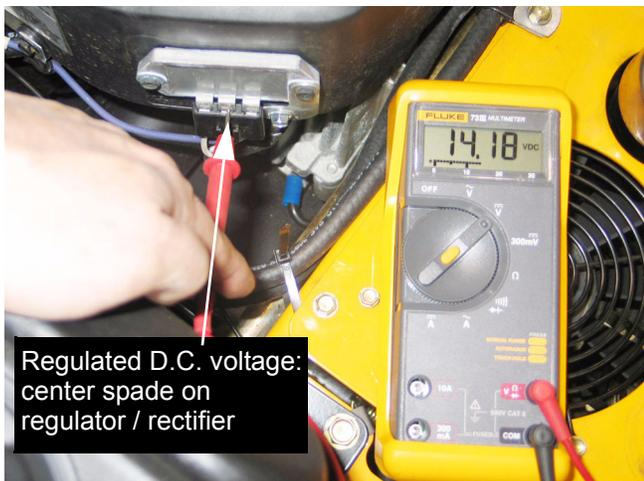

Figure 35.1
- 35.1. D.C. voltage output of the regulator rectifier is easily checked by connecting a DVOM, set to read D.C. voltage between the violet wire and a good ground such as the negative battery post or engine block. See Figure 35.1.